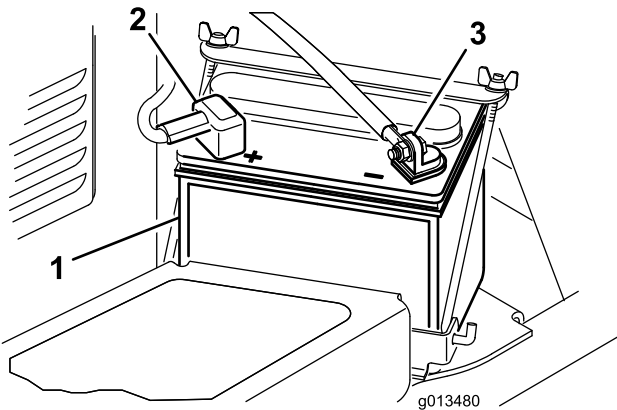

Figure 3
- Set the battery in place, with the negative terminal positioned to the outside of the machine (Figure 3).
- Secure the positive cable (red) to the positive (+) terminal with a 5/16 x 5/8 inch bolt and locknut (Figure 3).
- Secure the small black wire and the negative cable (black) to the negative (-) terminal of the battery with a bolt (5/16 x 5/8 inch) and locknut (5/16 inch) (Figure 3).